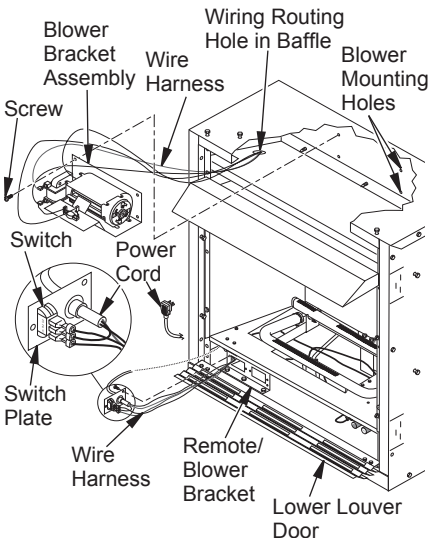
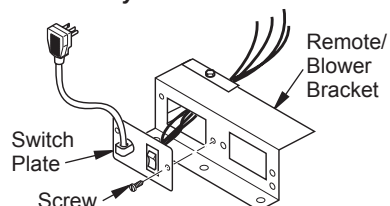

Figure 17 - Installing Blower Bracket Assembly (Remote-Ready Unit Shown)
Figure 19 - Installing Switch Plate to Remote/Blower Bracket
3. Note the wire locations on back of AUTO/OFF/ON switch. The terminals on back of switch are numbered 1, 2, and 3. Carefully remove red wire from terminal 3 and blue wire from terminal 1. Black wire can remain on middle terminal 2 (see Figure 17).
5. In top of the fireplace cabinet, locate the four mounting holes on the outer casing. Align these four holes with those on the blower bracket assembly. Attach blower bracket assembly to the outer casing with 4 #10 screws provided (see Figure 17).
7. Insert the 4 wire harnesses from behind the remote/blower bracket through hole in rear of bracket with bushing and through the left rectangular hole to front of fireplace (see Figure 17).
9. Install the switch plate on the remote/blower bracket with 2 #10 screws provided (see Figure 19). Route power cord out of the cabinet by inserting it through the bushing on the outer casing (see Figure 17). Plug fan kit into 120-Volt grounded power supply and test operation. *Note:* When switch is in the AUTO position, the fan will start after the fireplace has run for a few moments. The fan will continue to run for several moments after the fireplace has been turned off. When switch is in the ON position, the fan will run until turned to OFF.